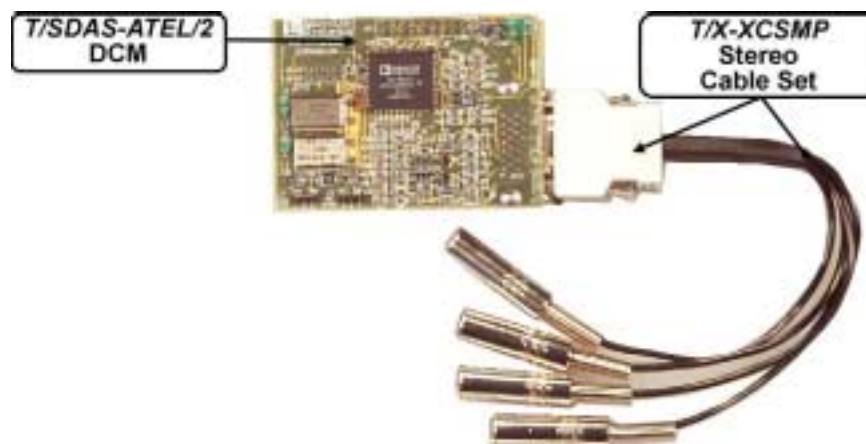

Fig. 1-6. T/SDAS-ATEL2 DCM with T/X-XCSMP stereo cable set.
- *T/X-XCSMP* stereo analog I/O cable set (fig.1-6) for connection of stereo MIC/Line-in/Line-out/Phone set